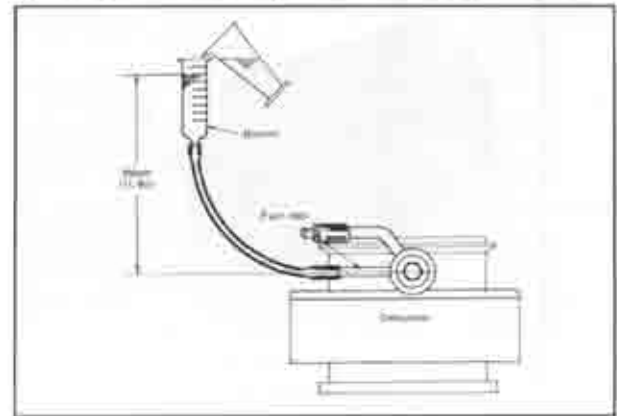

Fig. 4-14 Checking fuel discharge
4. Set the fuel level in the burette at 300 mm (11.8 in) above the fuel inlet, as shown in Fig. 4-14.